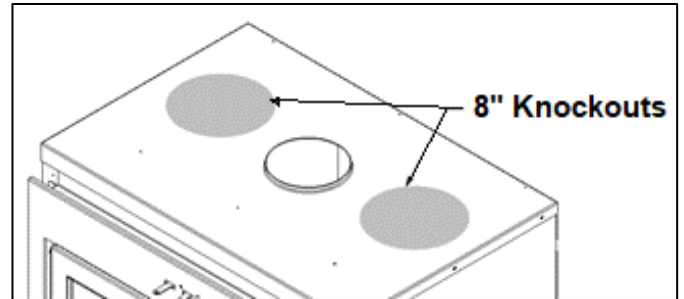

Figure 3-16: 8 Inch Knockouts for Gravity Kit
1. Remove the two 8" knockouts (2) at the top of the unit using a flat head screwdriver (Figure 3-16).